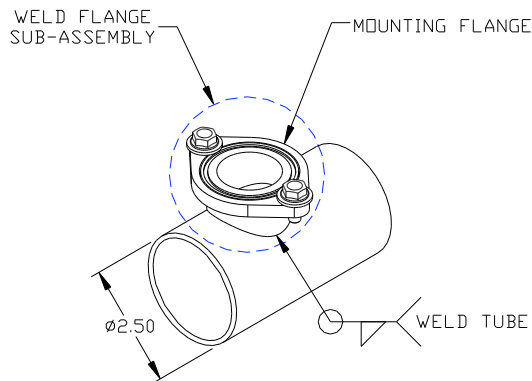

Figure 3
2. Select a desired engine bay mounting location and mark the location accordingly. Remove the intake tubing or other component where the **Raptor Valve** will be installed, and clean the area where the weld tube will be located. The supplied weld flange sub-assembly is designed to be welded to 2.50" O.D. tubing (stainless or mild steel, 14-16 gauge) per Figure 3. The weld tube included in the weld flange sub-assembly is made of mild steel (an alternate weld tube made of aluminum is included in the kit). If desired mounting location is something other than 2.50" tube, modify the weld tube to suit your application.